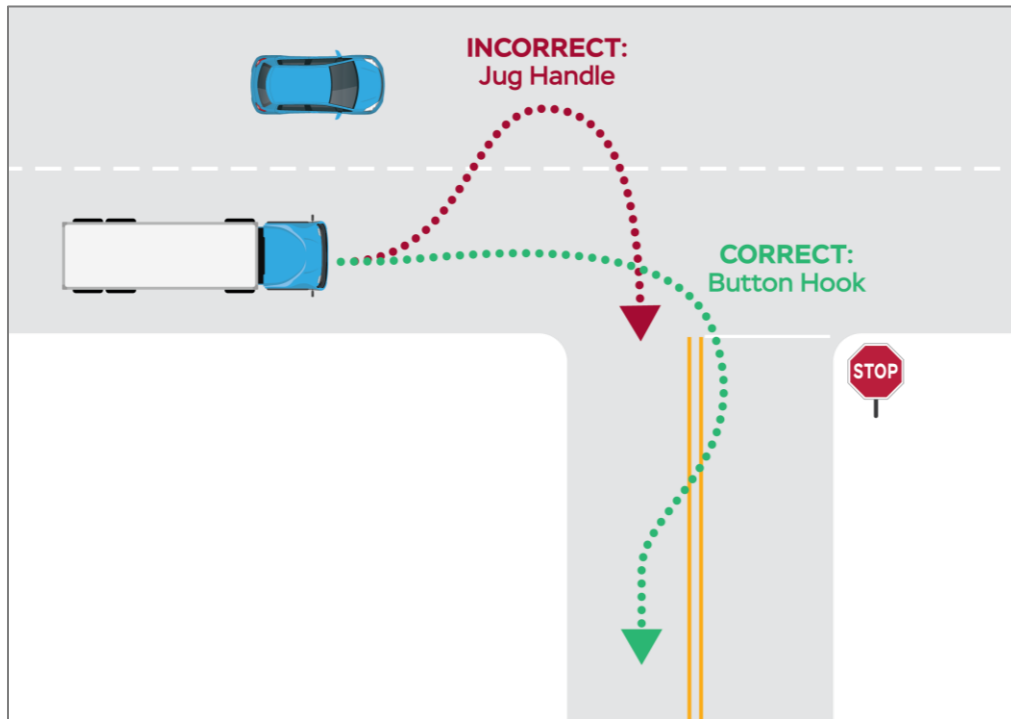

Figure 2.13
- Give them room to go by or to stop. However, don't back up for them, because you might hit someone behind you. See Figure 2.13.